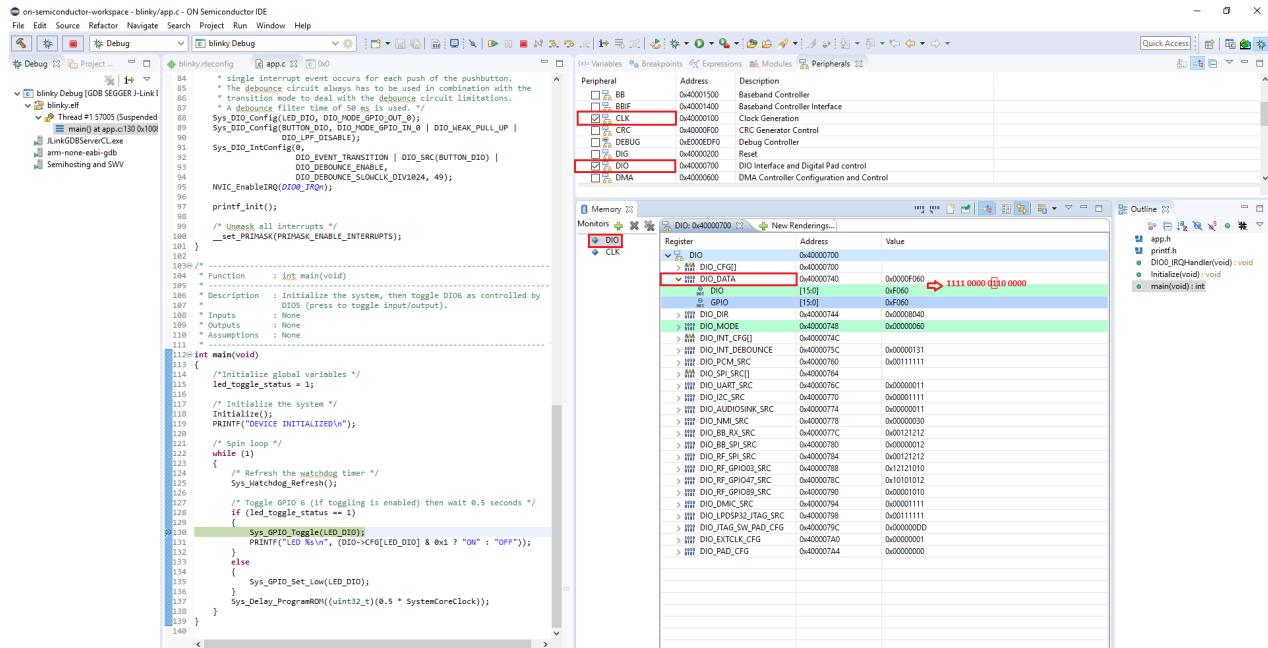

Figure 13. Peripheral Registers View Perspective in Debug Session After Setting SVD Path
4. In the Peripherals window, select **DIO**. Open the Memory window to monitor the RSL10 peripheral. Read only registers are highlighted in green. You might want to drag your Memory window and place it side-by-side with your source code view (see Figure 13) to prevent the console from switching focus away from the Memory window.
- Press F6 to step through the code. You can observe that this register's bit 6 toggles its state when `Sys_GPIO_Toggle(LED_DIO)` is executed (in this case, from 0xF060 to 0xF020). The register turns yellow to indicate that you have activated real-time monitoring for it (see figure "Peripheral Registers View Perspective in Debug Session After Setting SVD Path" (Figure 13)).